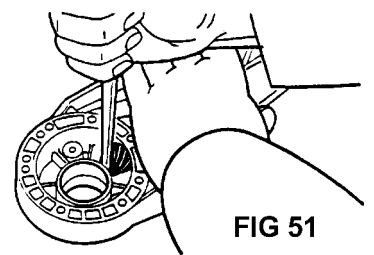

FIG 51
6. Using a screwdriver, lever pinion firmly back onto pinion bearing pin (Fig. 51 & 52).